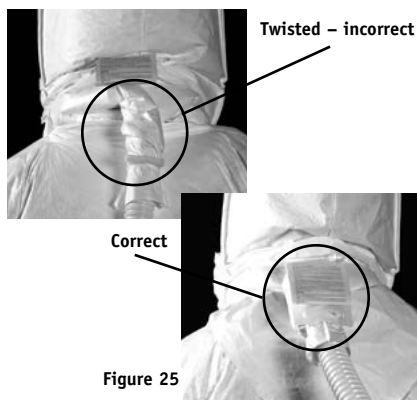

Figure 25
4. Engage clamp locks and squeeze together until tight. Air entry sleeve should not be twisted or restricted (see Figure 25). If so, then remove the clamp and repeat steps 2-4.